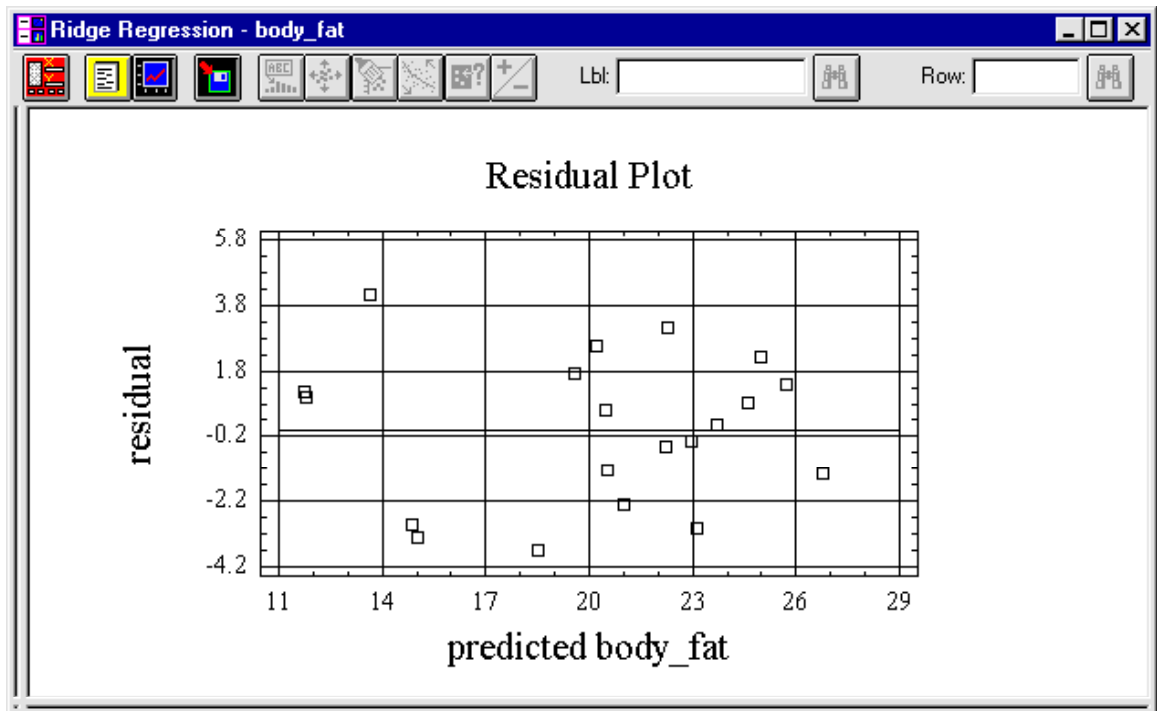

Figure 6-10. Residual versus Predicted Scatterplot
The Residual versus Predicted scatterplot displays the residual or the studentized residual versus the predicted values for the observed variable (Y) (see Figure 6-10). A nonrandom pattern indicates that the model does not adequately describe the observed data.